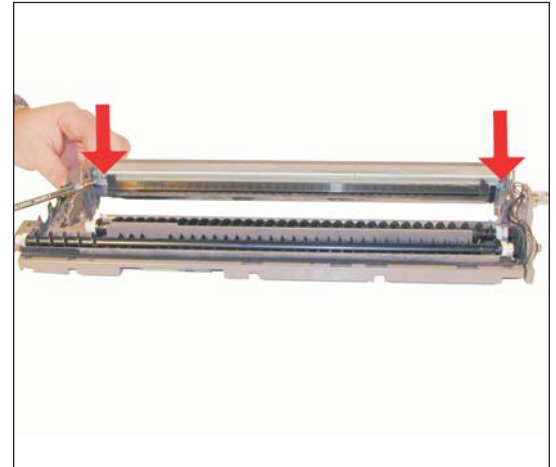

Figure 34
25) Coat the wiper blade with your preferred lubricant, and install the blade and two screws in the cartridge. See Figure 34